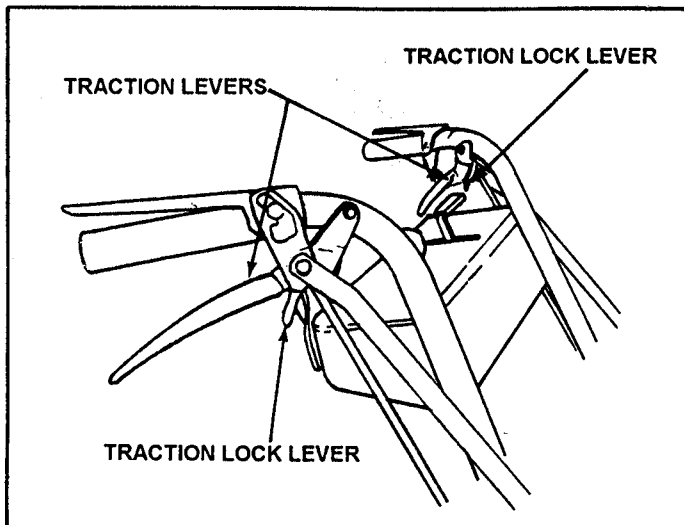

FIGURE 15
b. Pull the Blade Clutch Switch backward to the **OFF** position. See Figure 15.
- 7b. **PISTOL GRIP - TO STOP MOWER**, simultaneously squeeze both Traction Levers firmly against the handle while pulling the Traction Lock Lever rearward with index finger until latched. See Figure 15